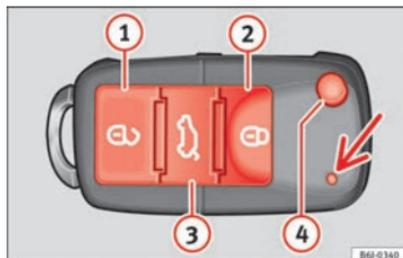

Fig. 59 Buttons on the remote control key.
By using button ④ ⇒ Fig. 59 on the control, the key shaft is released.
Unlocking the vehicle ① ⇒ Fig. 59 ①.
Locking the vehicle ② ⇒ Fig. 59 ②.
Unlocking the rear lid. Press button ③ ⇒ Fig. 59 ③ until all the turn signals on the vehicle flash briefly. When the unlocking button ③ is pressed, you have 2 minutes to open the door. Once this time has passed, it will lock again.
Moreover, the battery indicator on the key ⇒ Fig. 59 (arrow), will flash.
When the button ① ⇒ Fig. 59 ①, is pressed once, the driver door is unlocked, all others remain locked.
Press the button ① ⇒ Fig. 59 ① twice to unlock all doors.
- Press the  ⇒ Fig. 59 button on the remote control.